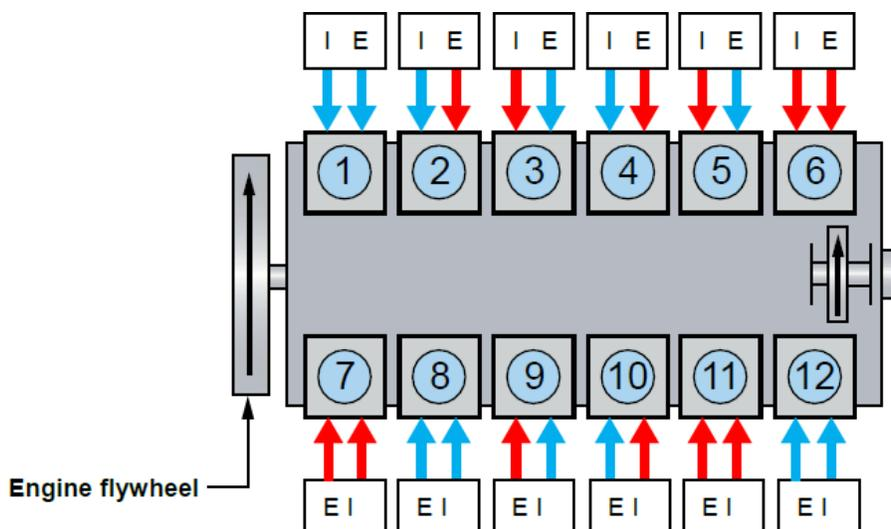

Figure 89.
3. Check the rockers on cylinder #1 (Left side of the engine closest to the rear (flywheel) end of the engine). If both rockers are loose, the valves shown below with BLUE ARROWS can be adjusted. If both valves are tight the valves shown below with RED ARROWS can be adjusted see Figure 89.